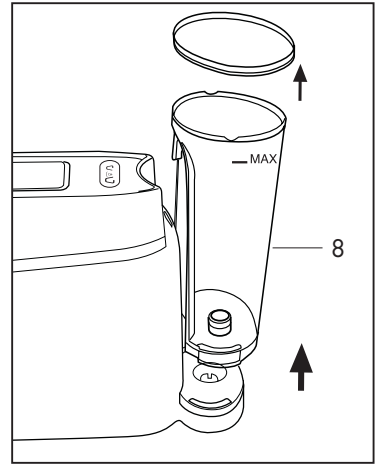

Fig. 1
- Take the tank (8) out of the machine by pulling it upwards, then remove the cover (**Fig.1**)